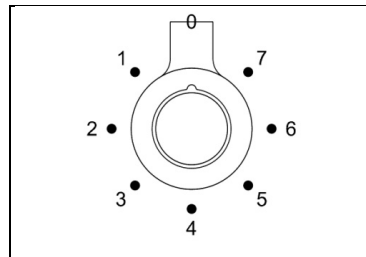

Fig 16
- Press and turn the knob (Fig.16) anti-clockwise to the selected position.